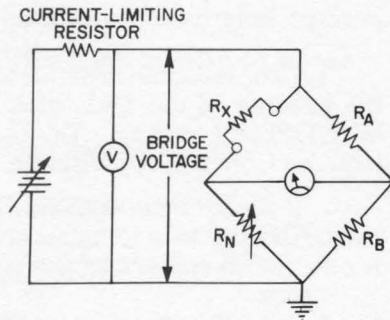

Figure 10. Circuit for Tests at EIA Voltages.
3. A suggested setup for tests at these voltages is shown in Figure 10. The voltmeter here indicates the bridge voltage, and should be set as listed in Tables 2 and 3. An alternate scheme is to put the voltmeter directly across the unknown resistor, assuming that the input resistance of the voltmeter is large enough to cause no error.